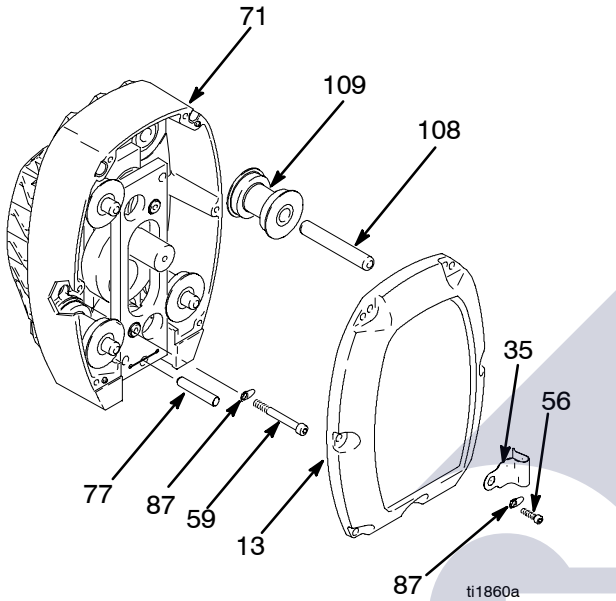

Fig. 1
2. Fig. 1. Remove six cap screws (56) lock washers (87), clip (35), and cover assembly (13).
3. Fig. 1. Remove six cap screws (56) lock washers (87) and cover assembly (13).